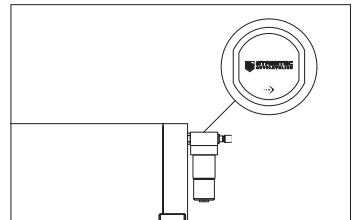

Fig. 1: Flow direction
1. Install the water separator in the correct flow direction. The arrow on the water separator indicates the flow direction and must point from the tank to the valve block (Fig. 1). If you choose not to mount the filter directly on the tank, route the required hose from the tank to the water separator and the hose from the water separator to the valve block with the appropriate connectors.